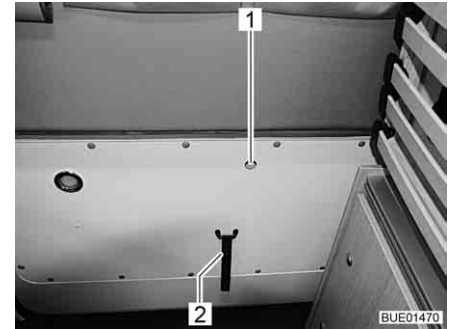

Fig. 32 Release button for rear flap, interior
- Using your finger, pull the little lever in the opening (Fig. 32,1) upwards, simultaneously pressing against the rear flap.
- Hold the edge of the tailgate or strap (Fig. 32,2) and close the tailgate.